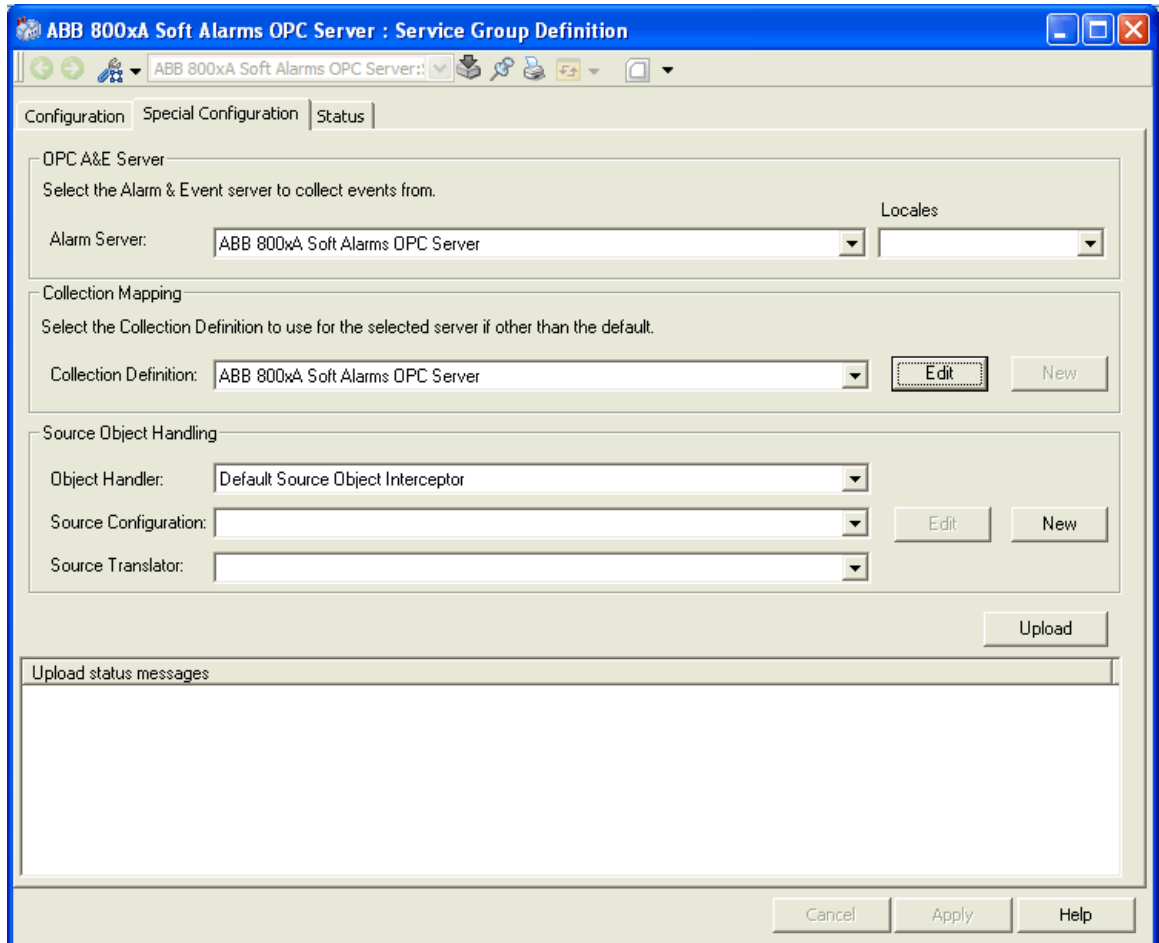

Figure 338. Special Configuration Tab
- a. Select the **Special Configuration** tab of the Event Collector service group. See Figure 338.